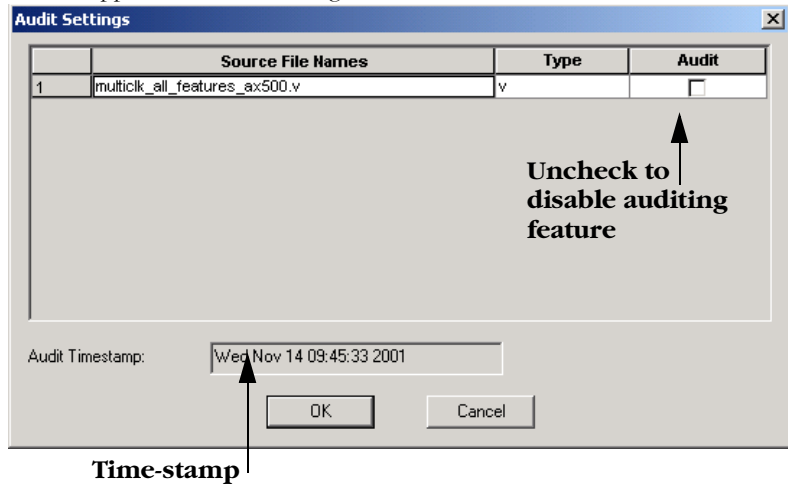

Figure 2-16. Update Audit Source Files Dialog Box
1. **From the File menu, click *Audit Settings*.** The Audit Settings dialog box appears, as shown in Figure 2-16.